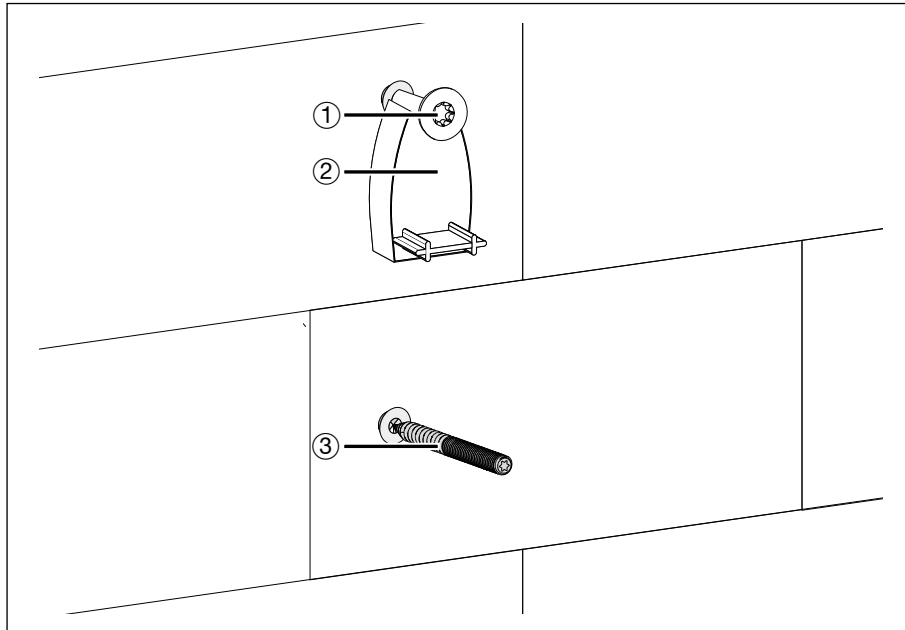

Fig. 15: Installation of the screws on the wall
- ① Wafer-head screw 5 x 60
- ② Installation aid
- ③ Hanger bolt
- ⑨ Cut off the two retaining lugs ① with a side cutter.
- ⑩ Push out the push-on cover ②.
- ⑪ Attach the cable holder with the opening ③ to the wafer-head screw (see Fig. 15: Installation of the screws on the wall).
- ⑫ Position the opening ④ over the hanger bolt.
- ⑬ Through the lower opening of the cable holder, place the shim on the hanger bolt.
- ⑭ Then, turn the cap nut onto the hanger bolt.
- ⑮ Using a 10 mm wrench, tighten the cap nut through the lower opening of the cable holder.
- ⑯ Place the push-on cover ② back on the cable holder.